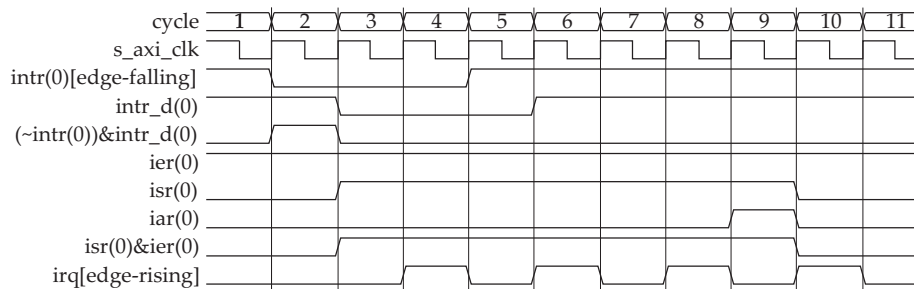

Figure 23: Input Intr - Edge Sensitive (Falling) and Output Irq - Edge Sensitive (Rising)
13. Configured Input Interrupt (Intr) for Edge sensitive (falling) and Output Interrupt Request (Irq) to Edge sensitive (rising) and is shown in Figure 23.